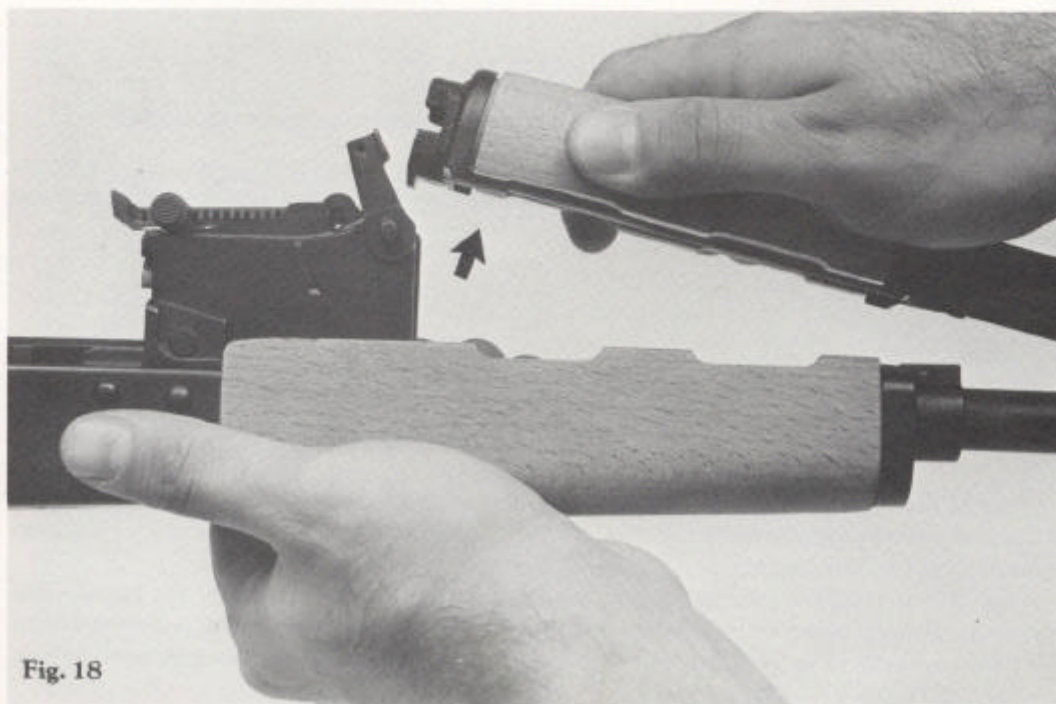

Fig. 18
7. Pull the rear of the forearm up and rearward until the upper forearm assembly is free (Fig. 18).